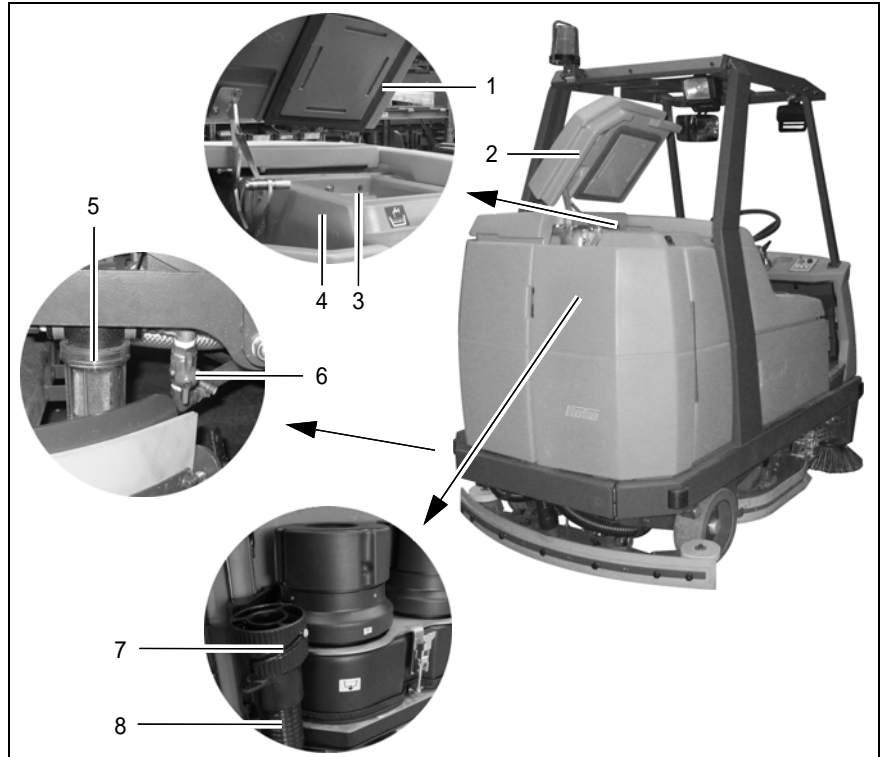

Fig. 25
Fill the solution tank (Fig. 25/4) with fresh water and cleaning agent before starting with the work, also refer to Section 3.1.4.
2. Open the tank cap (Fig. 25/2) and lock in place.
3. Detach the solution draining hose (Fig. 25/8) and lower it slowly.
4. Unscrew the cap (Fig. 25/7) to open it. The quantity drained can be regulated by turning the cap and pivoting the cap open fully, if necessary.
- The cap (Fig. 25/7) at the end of the draining hose (Fig. 25/8) should be cleaned at regular intervals.
The solution feed is equipped with a filter (Fig. 25/5) which must be cleaned if dirt appears on the container. This is located on the left-hand side of the vehicle at the height of the brushes behind the side panel.
2. Close the ball cock (Fig. 25/6) to prevent solution being supplied from the tank.